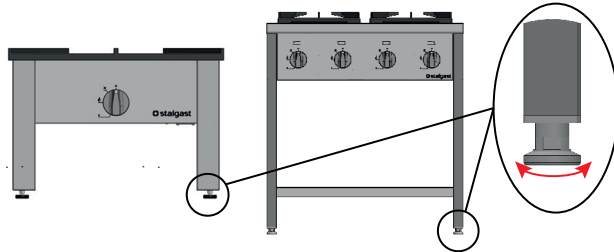

Figure 14. Levelling the unit
- The temperature of rooms of cylinder installation shall not exceed 35°C. The kitchen should be leveled with adjustable feet as shown in Fig. 14 (adjustment range - from -20 to 40 mm).